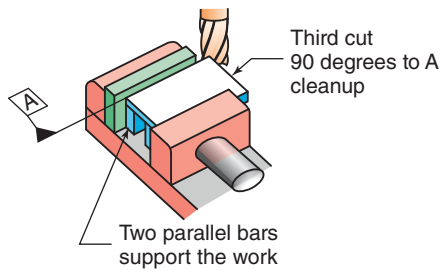

Figure 12-122 Note that the original Datum A edge is against the solid vise jaw.
Lay the part down in the vise on parallels. Machine one edge for clean up using the Y axis this time. *Notice that datum edge A is against the solid jaw of the vise* (Fig. 12-122).
2. When the peripheral cuts were being taken on the part ends (Fig. 12-122), which axis lock must be left snug during a climb cut but able to move?